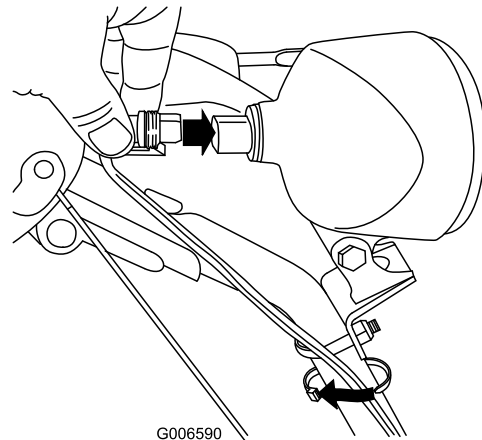

Figure 67
6. Insert the wire connector straight into the back of the headlight until it is securely in place (Figure 67).